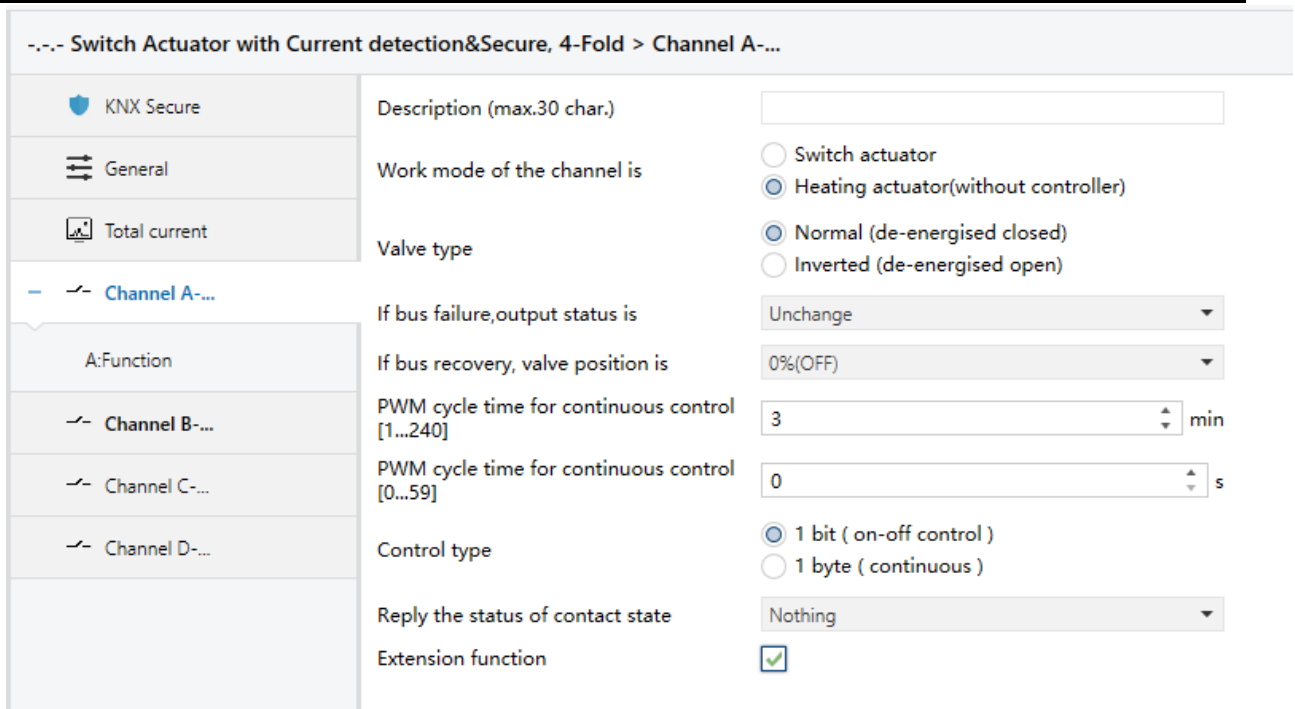

Fig. 4.5(1) Parameter window "Channel: X-Heating actuator"
The window of “Channel X-Heating actuator” in Fig. 4.5(1) will be visible with “Heating actuator (without controller)” in “Work mode of the channel”.